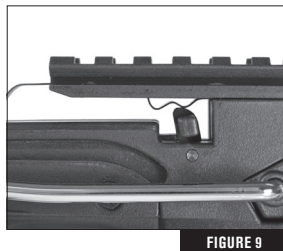

FIGURE 9
7. Slide the safety switch from the ON SAFE position to the FIRE position. (Fig. 9)